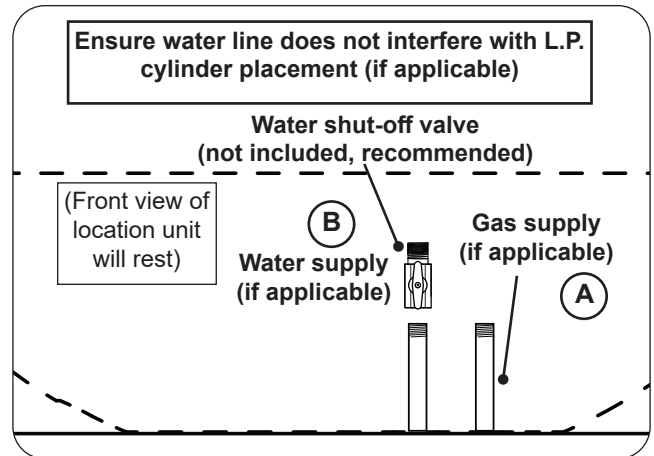

Fig. 24-1 Route gas and water supply (if applicable)
1. Ensure the gas supply is properly routed into the area that the unit will rest over (see Fig. 24-1, A).
1. Plumb the water supply into the area that the unit will rest over (see Fig. 24-1, B).
**Note:** It is recommended that a water shut-off valve (not included) be attached to the water supply line. It can be installed remotely or at the end of the water supply line. See Fig. 24-1, B for an example.